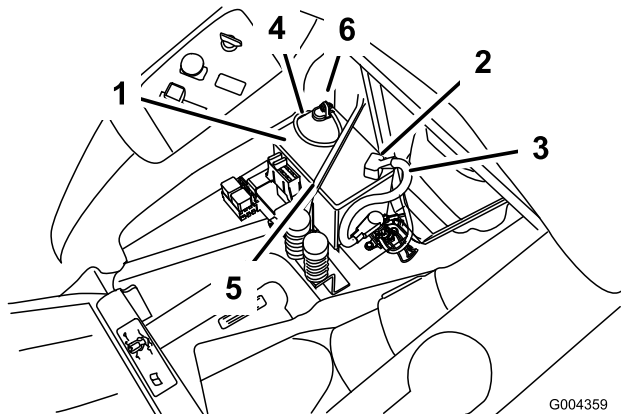

Figure 42
4. Disconnect the negative (black) ground cable from the battery post (Figure 42).
- Slide the rubber cover up the positive (red) cable. Disconnect the positive (red) cable from the battery post (Figure 42).
- Remove the battery hold-down (Figure 42) and lift the battery from the battery tray.
1. Position the battery in the tray with the terminal posts away from the control panel (Figure 42).
4. Secure the cables with 2 bolts (1/4 x 3/4 inch), washers (1/4 inch), and nuts (1/4 inch) (Figure 42).
6. Secure the battery with the hold-down (Figure 42).